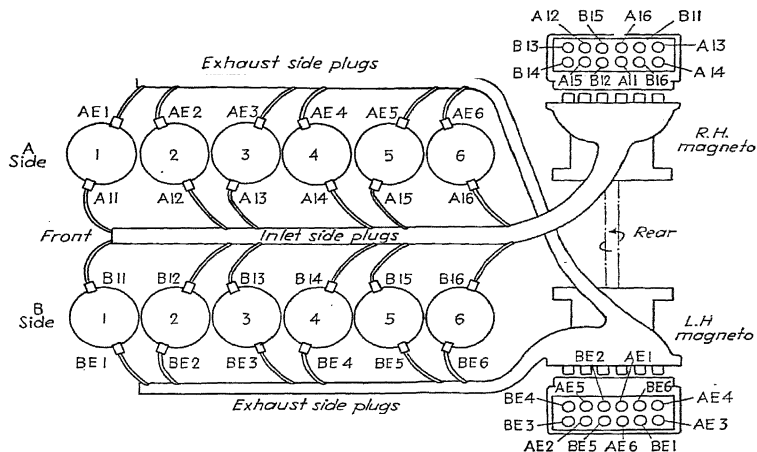

FIG. 45.—Ignition wiring from both magnetos.
**Ignition Wiring.**—As can be seen in Fig. 45, the right-hand magneto carries 12 high-tension terminals leading to the central conduit and the spark plugs on the inlet side of the cylinders. The left-hand magneto has similar terminals from the plugs on the exhaust side. Should it be necessary to remove the exhaust fittings the following method is recommended: